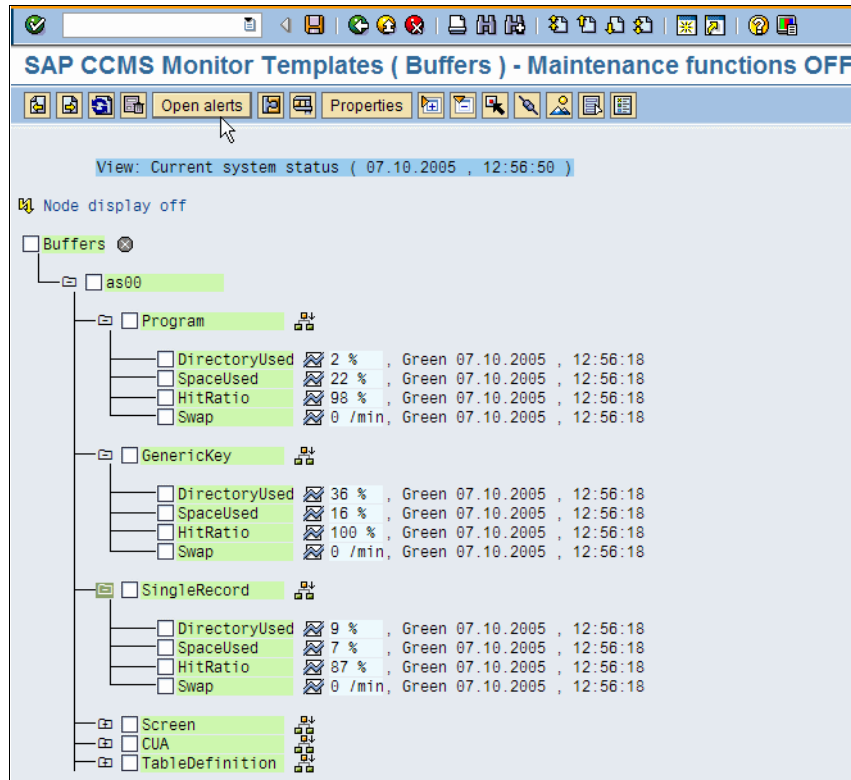

Figure 25-23 Buffers - view current system status
2. Double-click **buffers** to view the current buffers status. Refer to Figure 25-23.
Present alerts are shown in Figure 25-23 on page 489. Figure 25-24 on page 490 shows alerts from the past. Double-click any row in the buffers current view, as shown in
Figure 25-23 on page 489, to see a current overview of buffers state, as shown in Figure 25-28. No alerts are currently shown.